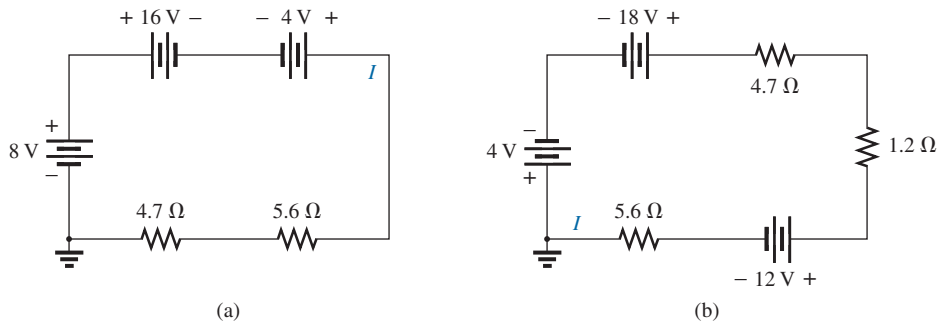

FIG. 5.102
18. Determine the current *I* and its direction for each network in Fig. 5.102. Before solving for *I*, redraw each network with a single voltage source.